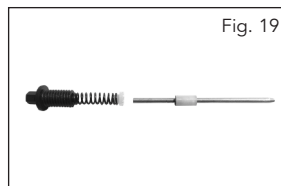

Fig. 19
4. After cleaning reassemble the plunger assembly in the correct order (Fig. 19) and refit to the paint head.